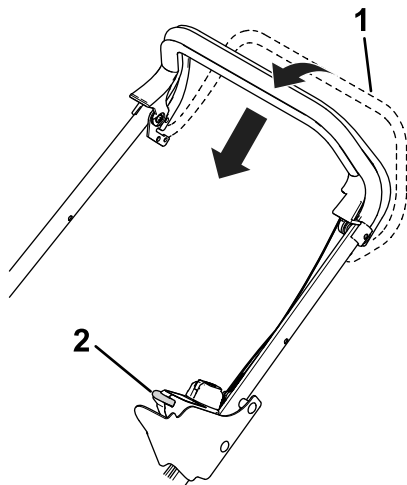

Figure 20
- Whilst the mower blade is running, engage the self-propel drive bar (Figure 20).